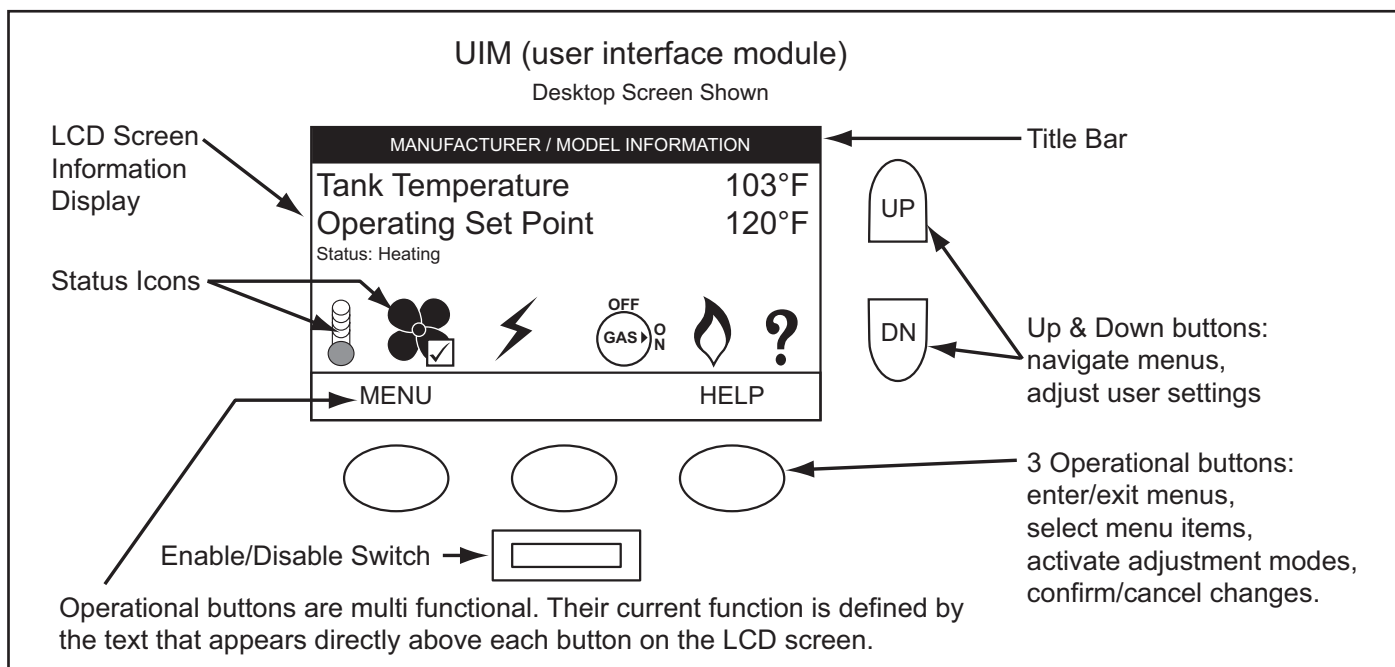

Figure 59
user input buttons; an up, down and three (3) multi functional operational buttons below the LCD, see Figure 59.
The Status Icons are displayed on the Desktop screen and convey operational and diagnostic information. The icons are described in the table below. See Figure 59 on page 45 and the 2. Ensure the water heater is properly grounded. Flame sensing requires an adequate earth ground. If the water heater is not properly grounded it will cause Ignition Failure. on page 57.
The current operational state of the water heater is displayed on the Desktop screen as the "Status." The common operational states are described in the table below. See Figure 59 on page 45 and the 2. Ensure the water heater is properly grounded. Flame sensing requires an adequate earth ground. If the water heater is not properly grounded it will cause Ignition Failure. on page 57.